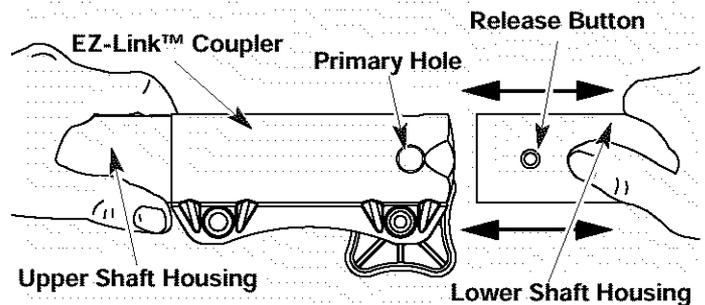

Fig. 20
3. While firmly holding the upper shaft housing, pull the cutting attachment or add-on straight out of the EZ-Link™ coupler (Fig. 20).
1. Turn knob counterclockwise to loosen (Fig. 20).
2. While firmly holding the add-on, push it straight into the EZ-Link™ coupler (Fig. 20).